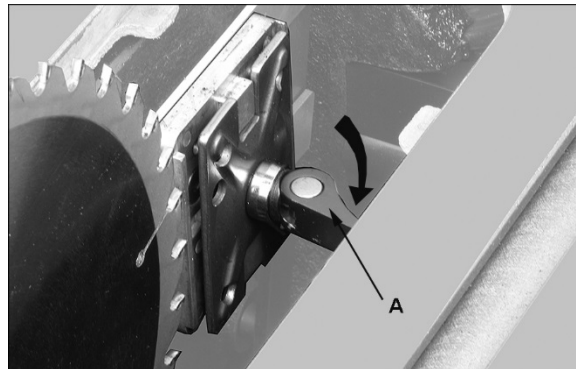

Figure 24
3. Pull quick-release lever (A, Figure 24) and remove riving knife, making note as to which direction riving knife needs to be moved to align it with saw blade.